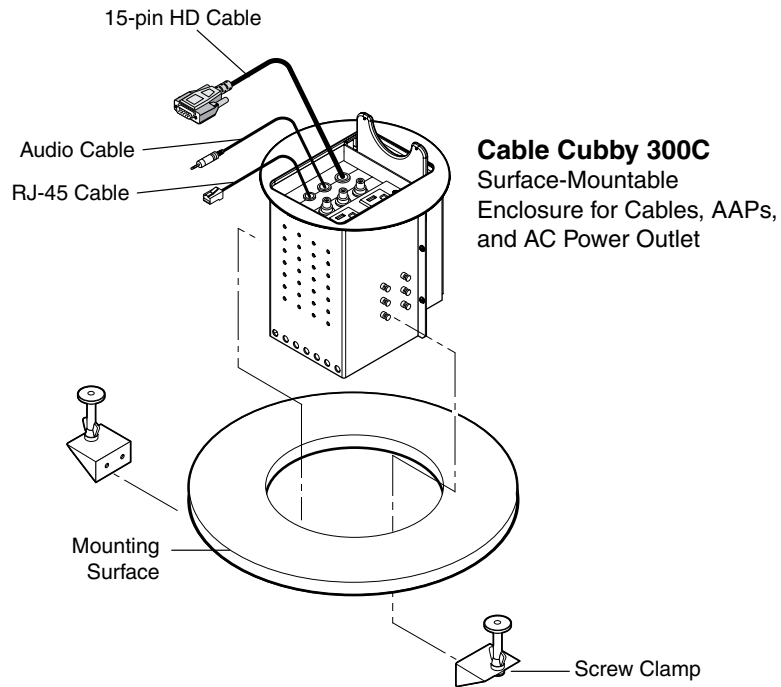

Figure 2-7 — Cable Cubby 300C, installation view
1. **Cable Cubby 300, 600, and 800** — If screw clamps are installed, remove them from both sides of the enclosure (figure 2-7 on page 2-12).
NOTE *Figure 2-7 shows the installation of a Cable Cubby 300C. Cable Cubby 300S, 600, and 800 installations are similar.*
- Carefully lower the Cable Cubby into the hole to test the fit. If necessary, remove the enclosure and use a file or rasp to enlarge or smooth the edges of the opening (figure 2-7).